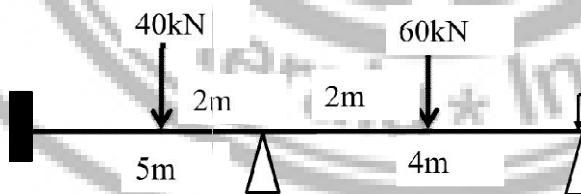

Fig. 4
- 7 Analyse and draw bending moment and twisting moment diagrams for a beam semi-circular in plan, and supported at three equally spaced hinges. The radius of the beam in plan is 3m, and it carries a UDL of 10kN/m. (20)
- 8 a) Derive expressions for shear force, bending moment and torsion of a beam with the shape of a quadrant of a circle in plan, fixed at one end and free at the other, with a point load at the free end. (10)
- b) Find out shape factor for an isosceles triangular section of base **b** and height **h**. (10)
- 9 Find the plastic moment capacity required for the beam shown in Fig. 4. Assume uniform section throughout. (20)